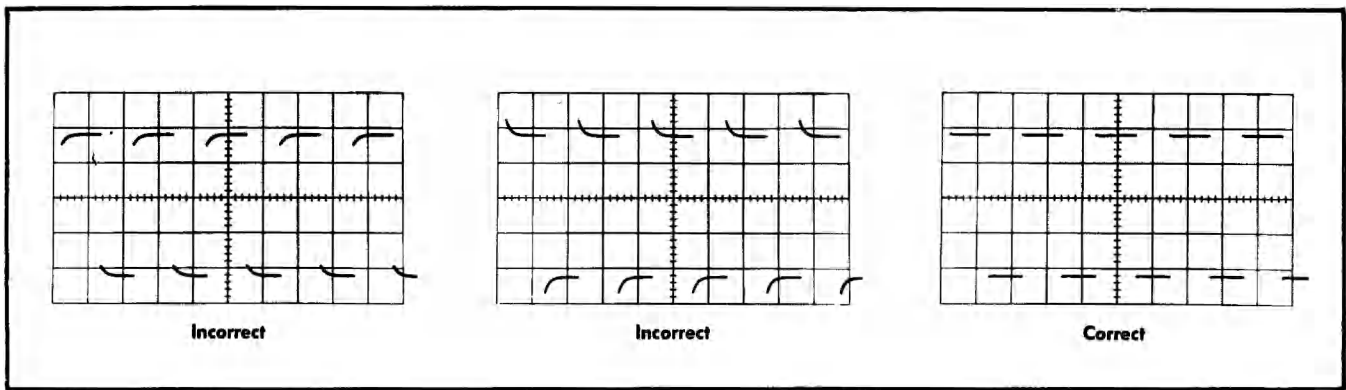

Fig. 2-5. Probe compensation waveforms using a 1-kHz calibrator signal.
4. Adjust the probe compensation for best square-wave response as shown in the right-hand picture of Fig. 2-5.